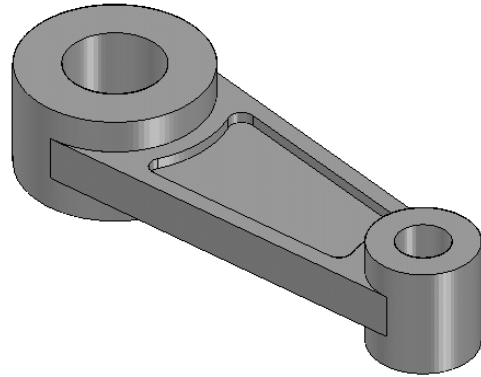

Figure 5-66 Final model for Tutorial 2
- Create an extruded feature using the same sketch to complete the model, refer to Figure 5-66.
5. Clear the check box beside **Sketch 3** to hide the sketch. Similarly, you can hide planes and other sketches. The final model for Tutorial 2 is shown in Figure 5-66.